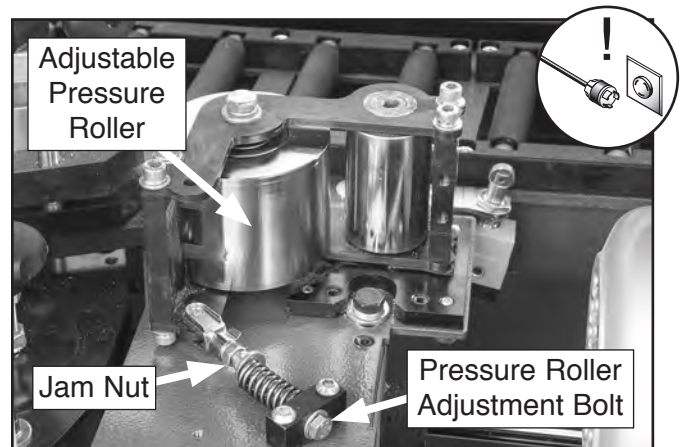

Figure 98. Pressure roller adjustment components (viewed from rear of machine).
8. Loosen jam nut shown in **Figure 98**.
9. Rotate pressure roller adjustment bolt shown in **Figure 98**.